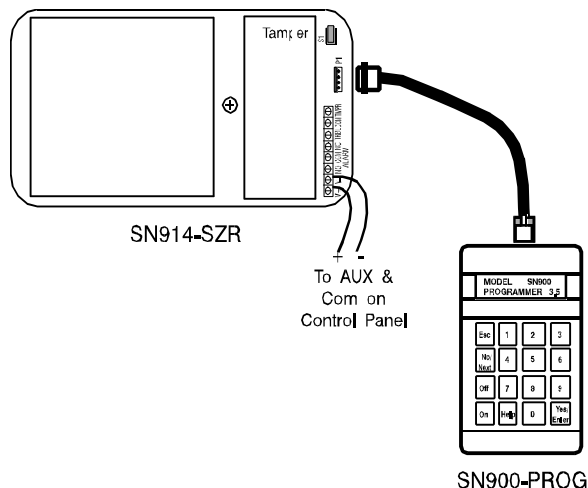

Figure 3 - Connecting the Programmer to the Single Zone Receiver
- 1 - Plug the Interconnect Cable (P/N 2-600-089-01) into the 4-pin molex connector (J1) on the SN914-SZR receiver and the modular plug into the RJ12X jack on the SN900-PROG Programmer, as shown in Figure 3 above.
- 1 - Using the Interconnect Cable (P/N 2-600-089-01) supplied with the Programmer, connect the SN900-PROG Programmer to the SN914-SZR Receiver as shown in Figure 3 on page 28. Press the [Enter] key to start the Scan Channel and Property Code option.
- 1 - Use the Interconnect Cable (P/N 2-600-089-01) supplied with the Programmer to connect the SN914-SZR RF Receiver to the RJ12X connector on the SN900-PROG Programmer. (Refer to Figure 3 on page 28 for proper connections.)